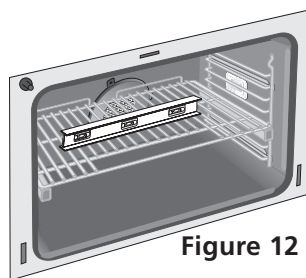

Figure 12
3. Check if the range is level by installing an oven rack in the center of the oven and placing a level on the rack (Figure 12).